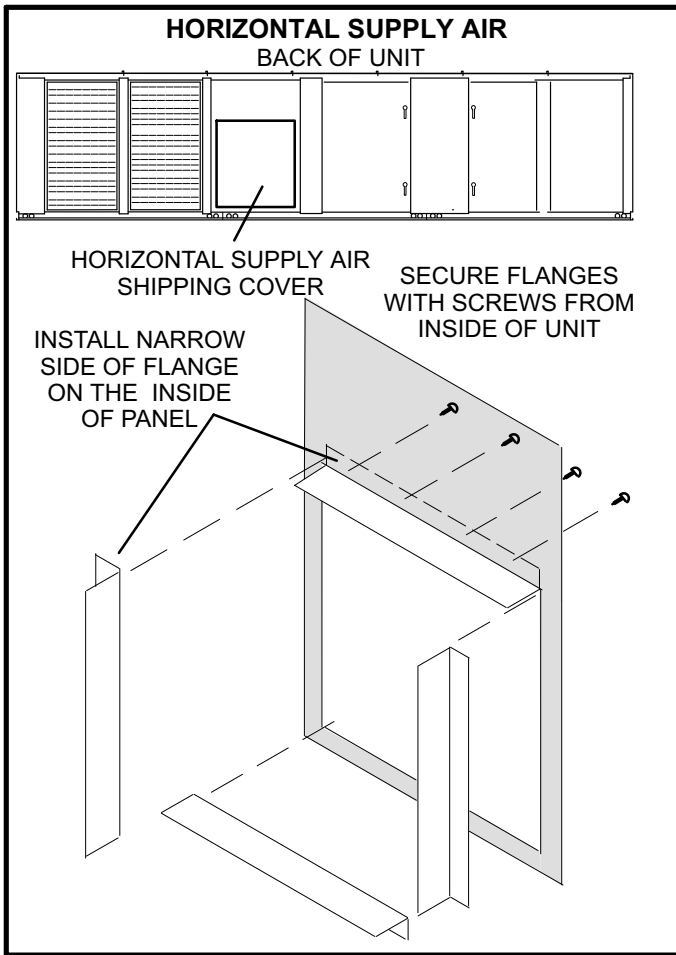

FIGURE 2
- 2- Remove and discard horizontal supply air shipping cover from supply air panel on back side of unit. See figure 2.
- 3- Position flanges as shown in figure 2. Make sure the narrow side of the flange is positioned on the inside of the unit panel. Secure with screws from the inside of the unit.